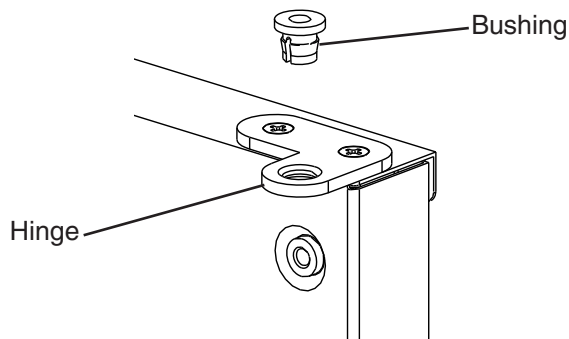

Fig. 16
- 7) Remove the bushings from hinge (C1) and hinge (C2) (the hinges attached to the door). See Fig. 16.